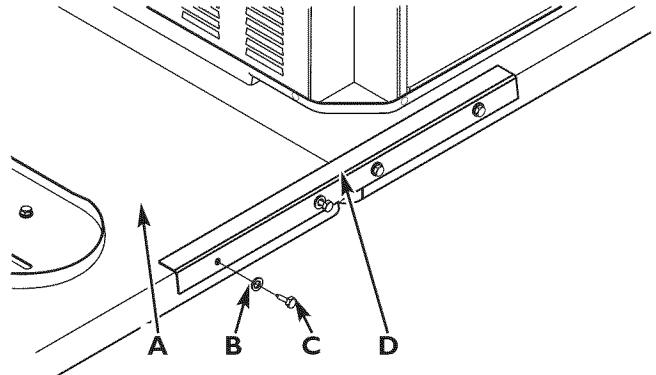

Figure 3 — Start Lag Bolts into Mounting Pad Holes
3. Pass one 5/16" X 1" lag bolt through one 5/16" flat washer, then through one hole on the angle bracket. Finger tighten lag bolt into mounting pad hole (see Figure 3).